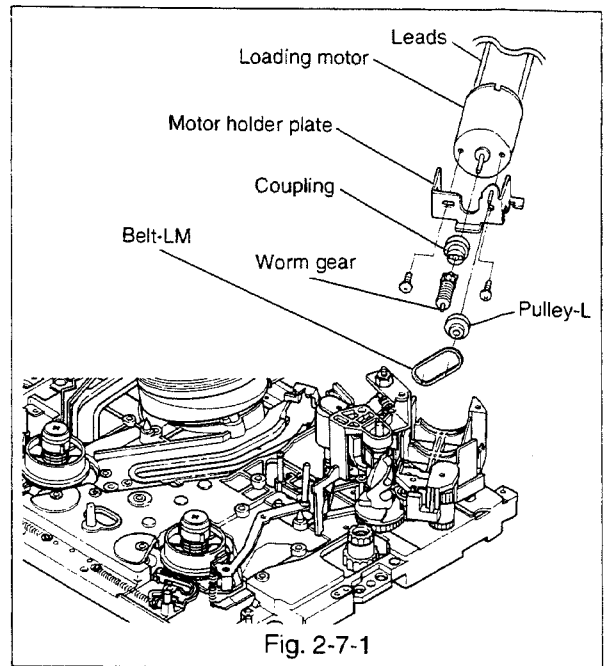

Fig. 2-7-1
2-7-1 Removal(Refer to Fig. 2-7-1, 2-7-2.)
- E. Remove the belt-LM from the loading motor and the pulley-L. (TYPE-B only)(Refer to Fig. 2-7-1.)
2-7-2 Installation(Refer to Fig. 2-7-1~2-7-3.)
- B. Fasten the motor holder plate to the motor with two screws. (Refer to Fig. 2-7-1.)